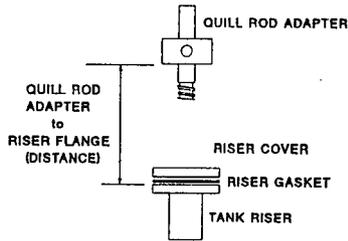

Figure 18) Quill Rod Adapter to Riser Flange Distance.
- 8.1.6.2 RAISE the core sample truck uniformly to set the QUILL ROD ADAPTER to RISER FLANGE DISTANCE (see Figure 18 below) to that indicated by the cognizant engineer.